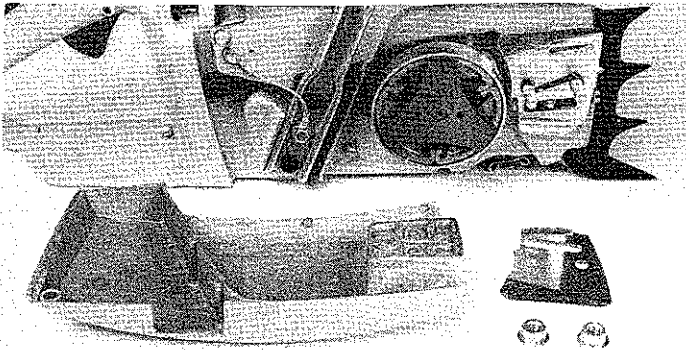

Figure 15
2. Remove the bar clamp and the bar and chain. Figure 15.